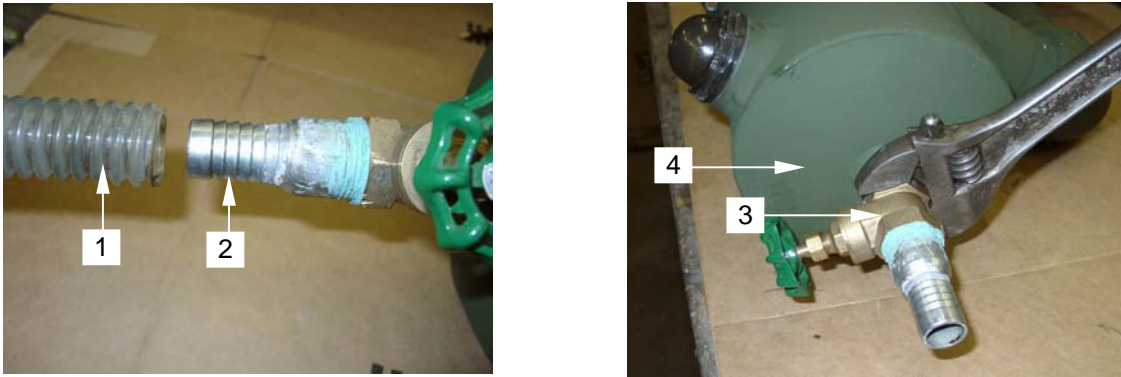

Figure 10. Install Drain Hose and Valve
19. Install the drain valve (**figure 10, item 3**) onto the bottom of the trap housing (**figure 10, item 4**).
22. Install the drain hose (**figure 10, item 1**) onto the drain hose nipple (**figure 10, item 2**).